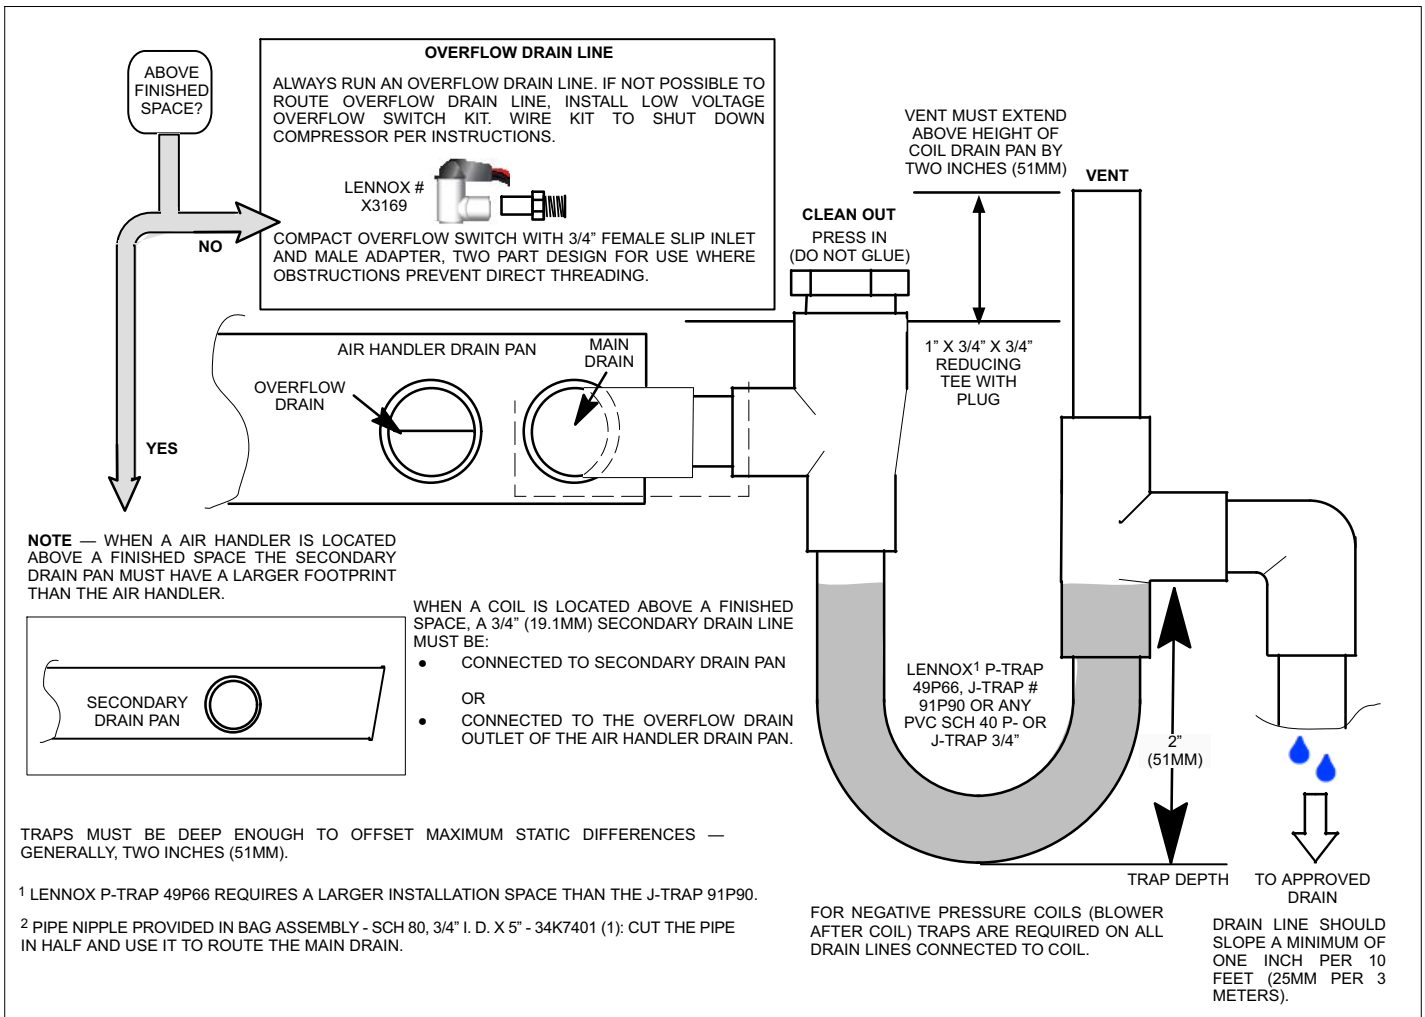

Figure 33. Typical Main and Overflow Drain
7. Install a 2" trap in the main (primary) drain lines as close to the unit as practical (see figure 33). Make sure the top of the trap is below the connection to the drain pan to allow complete drainage of the pan.
NOTE - Horizontal runs must have an anti-siphon air vent (standpipe) installed ahead of the horizontal run. See figure 33. An extremely long horizontal run may require an oversized drain line to eliminate air traps.